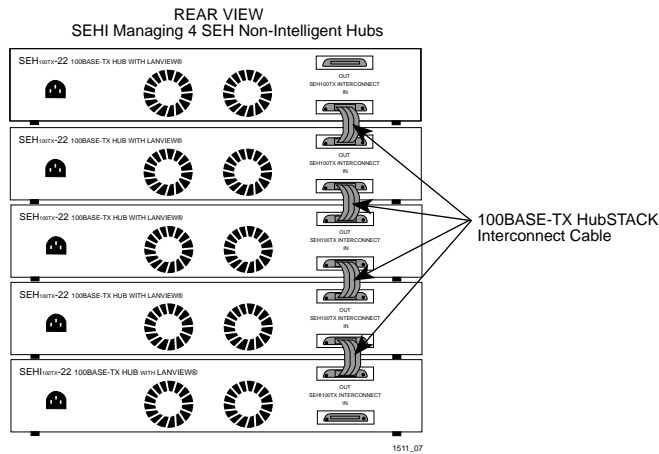

Figure 4-6 Stacking the SEHI
5. Attach the HubSTACK Interconnect cable provided with the SEH to the “IN” port on the rear panel of the SEH as shown in Figure 4-6.